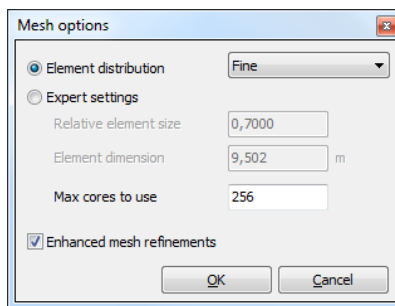

Figure 6.3 Modification of the *Global coarseness*
- Select the *Fine* option from the *Element distribution* drop-down (Figure 6.3).